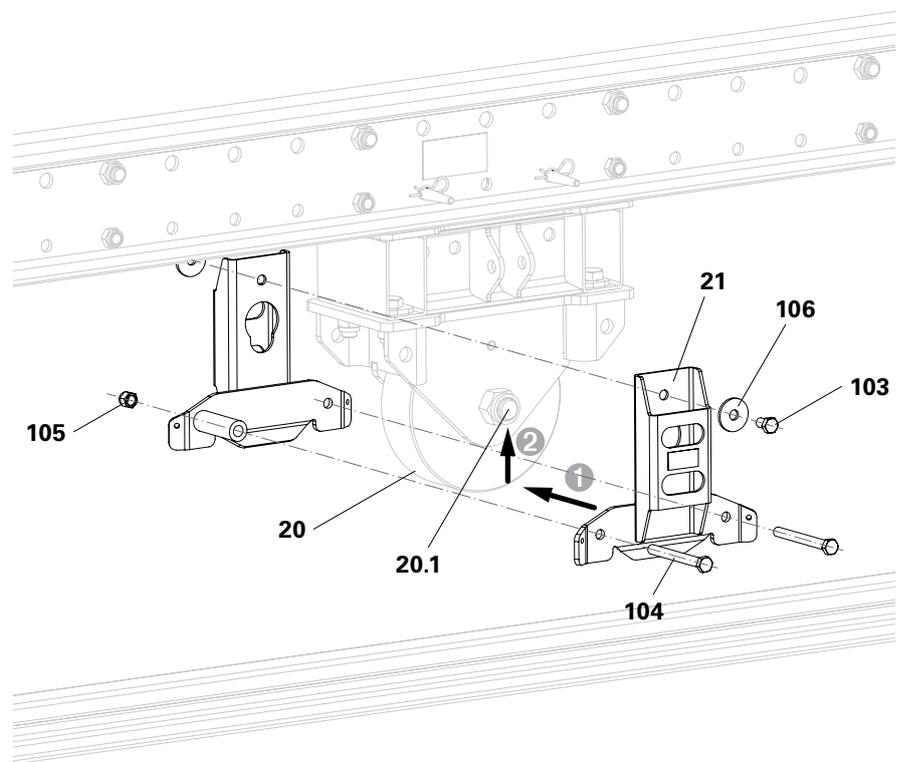

Fig. B3.16
1. Slide the Flange Cage (21) over the wheel bolt (20.1) and push it upwards.
2. Fix the Flange Cage (21) to the Heavy-Duty Wheel (20) on both sides using bolts M16x25 (103) and washers M16 (106).
3. Connect the two Flange Cages to each other with bolts M16x150 (104) and self-securing nuts M16 (105).
- (Fig. B3.16)